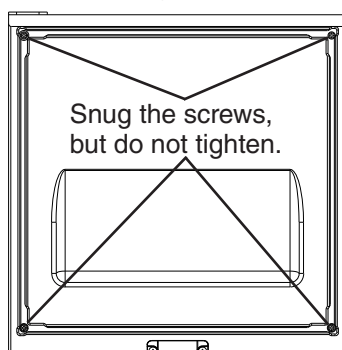

Fig. 17
- 5) Fasten the overlay panel to the door using the four M4x25 pan head screws provided. **Snug the screws, but do not tighten.** See Fig. 17.